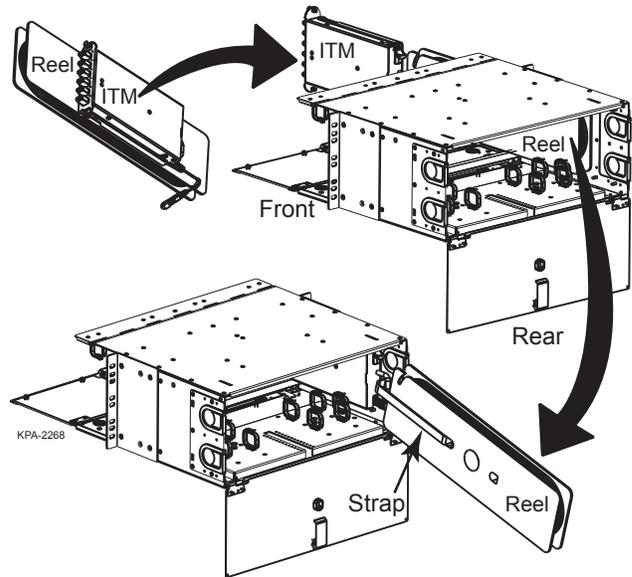

Figure 6
Step 2: ITMs with more than 40 feet of cable will have the excess cable shipped on an external reel. Insert the reel, if applicable, into the housing through the opening where the blank panel was removed. Then slide the module into the opening (Figure 6).